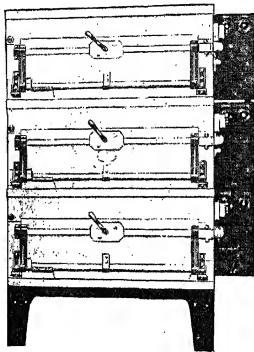

FIG. 87. Three-section roasting oven.
**Prob. 49-4.** The three-section roasting oven shown in Fig. 87 is rated at 4.5 kilowatts per section and operates on 110 volts.
**Prob. 49-4.** The three-section roasting oven shown in Fig. 87 is rated at 4.5 kilowatts per section and operates on 110 volts. (a) How much power is required when one section is turned on? (b) How much power is required when all three sections are turned on? (c) If the oven is used 5 hours a day with all three sections on, how much energy does it consume daily?